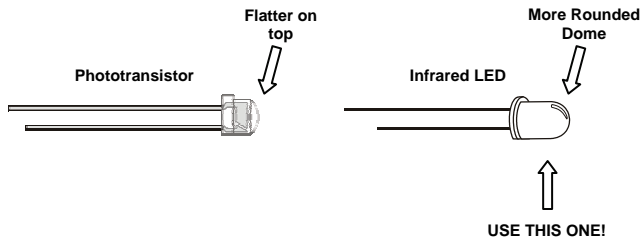

Figure 7-5
- ✓ Check Figure 7-5 to make sure you have selected infrared LEDs and not phototransistors. The infrared LED has a taller and more rounded plastic dome, and is shown on the right side of Figure 7-5.